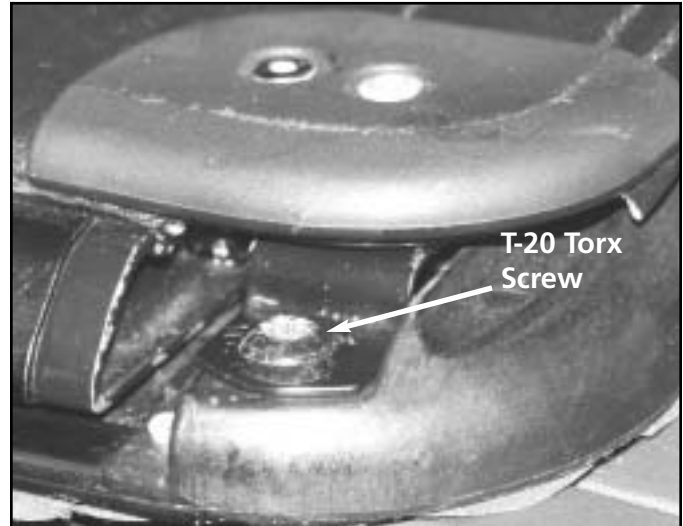

Figure S-33
7. Remove the two (2) slider retainer T-20 Torx screws from the front rail. See figure S-33.
12. Install the two (2) T-20 Torx screws through the slider retainers into the front rail and fasten. See figure S-33.